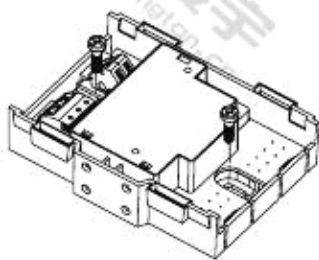

Fig. 1
- on a plane surface (Fig. 1)
1. Position the module on a plane surface (Fig. 1).